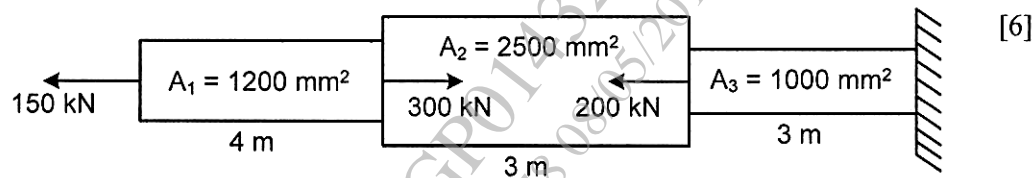

Fig.1
1. a) A stepped bar is subjected to axial forces as shown in fig.1 Determine the total deformation of the bar. Take $E_1 = E_2 = E_3 = 200\text{GPa}$